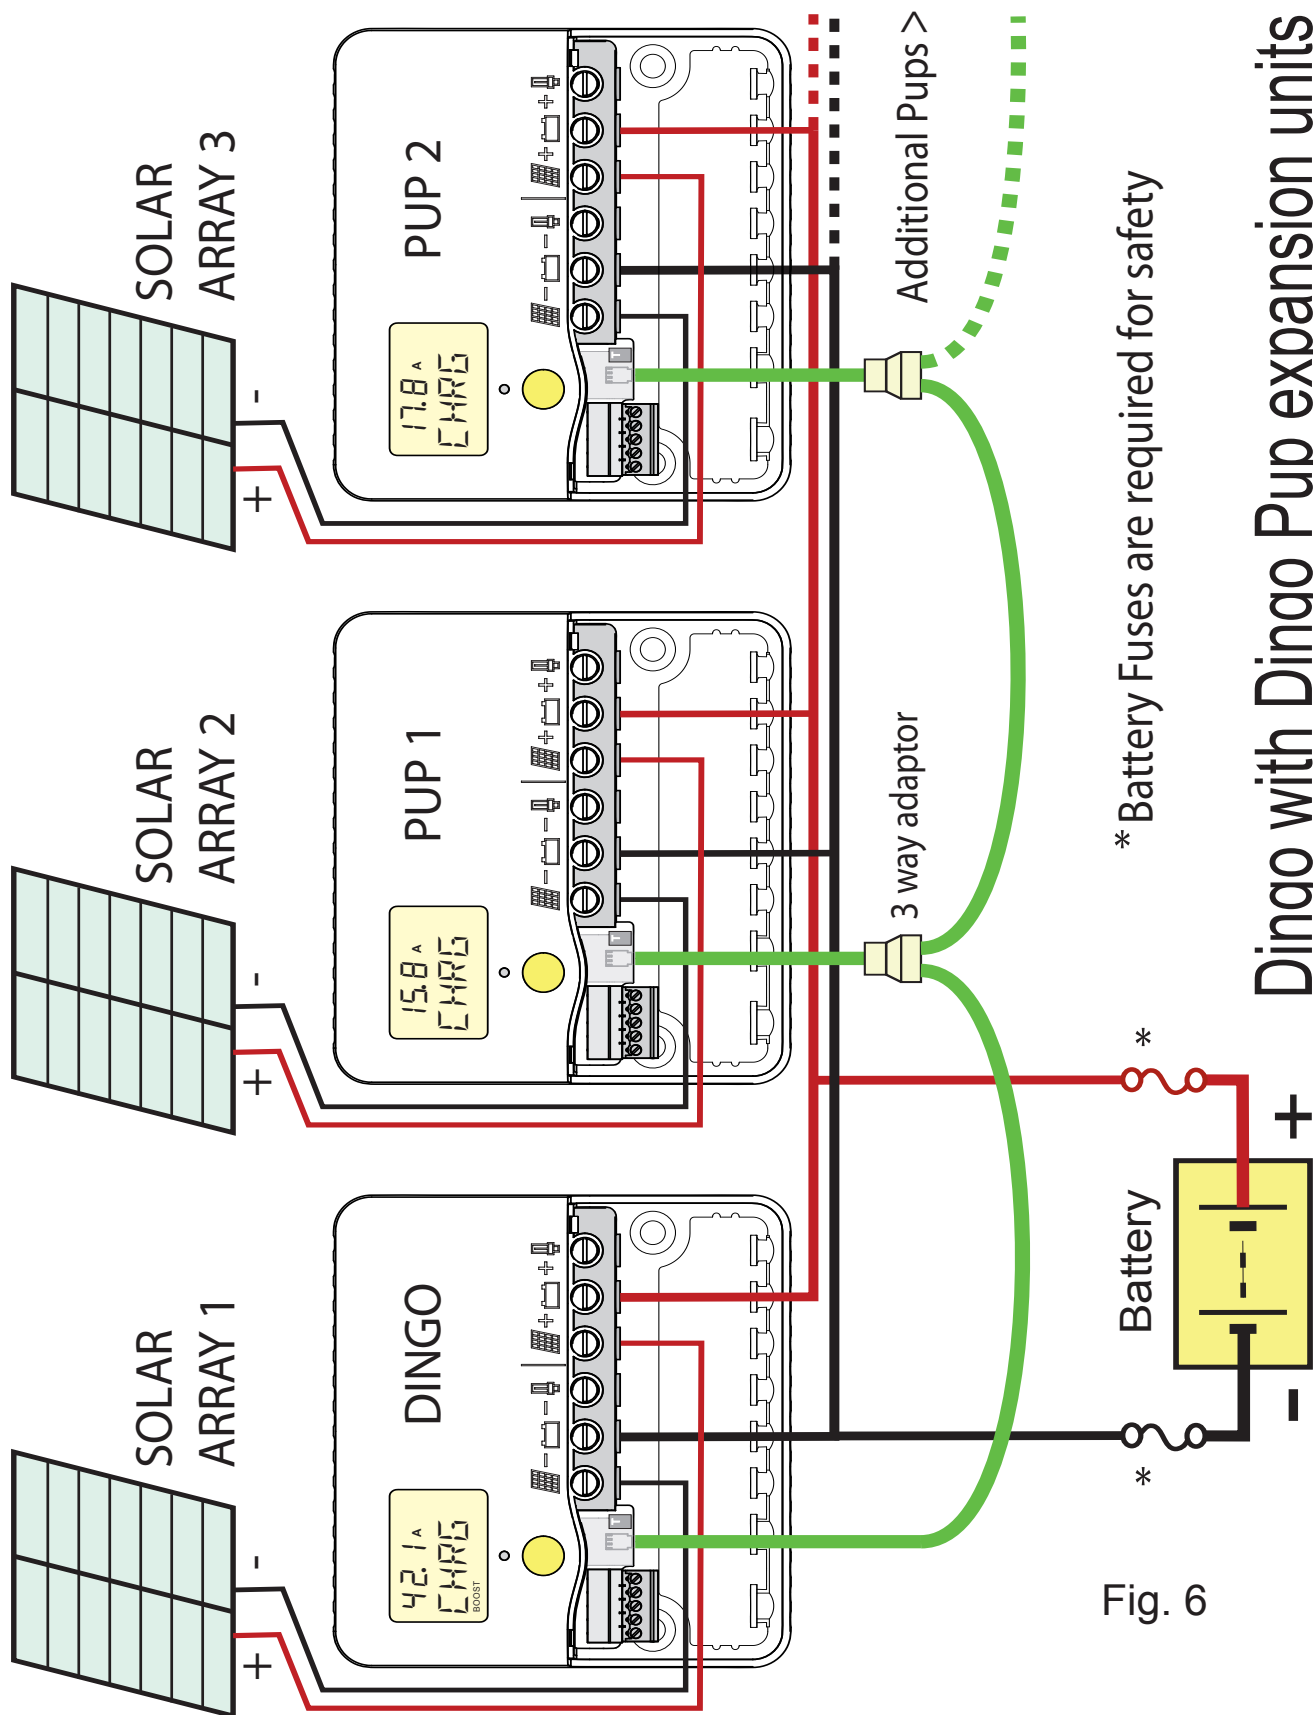

Fig. 6
- c. Test the solar panel connection by touching the positive (+) wire from the solar panel onto the Test terminal (T).
- f. Connect the Pup to the Dingo accessory port. *(Multiple Pups can be connected in a daisy chain manner by using a 3 way female adaptor and a short cable as shown in figure 6 on page 15).*
When more charge current is required than can be controlled by one Dingo, then the array can be split. Dingo Pups can carry the current from these extra sub arrays. The way this is set up is shown in fig.6 on page 15. The Dingo controls the Pups. It tells them when to turn on or off. When the battery voltage is below the regulation point, all Pups will be on. When the battery voltage gets to the regulation point, the Dingo will turn off the Pups progressively to reduce the charge current so as to maintain the regulation voltage. If the load increases or the insolation reduces, then Pups will be turned back on until a balance is restored.